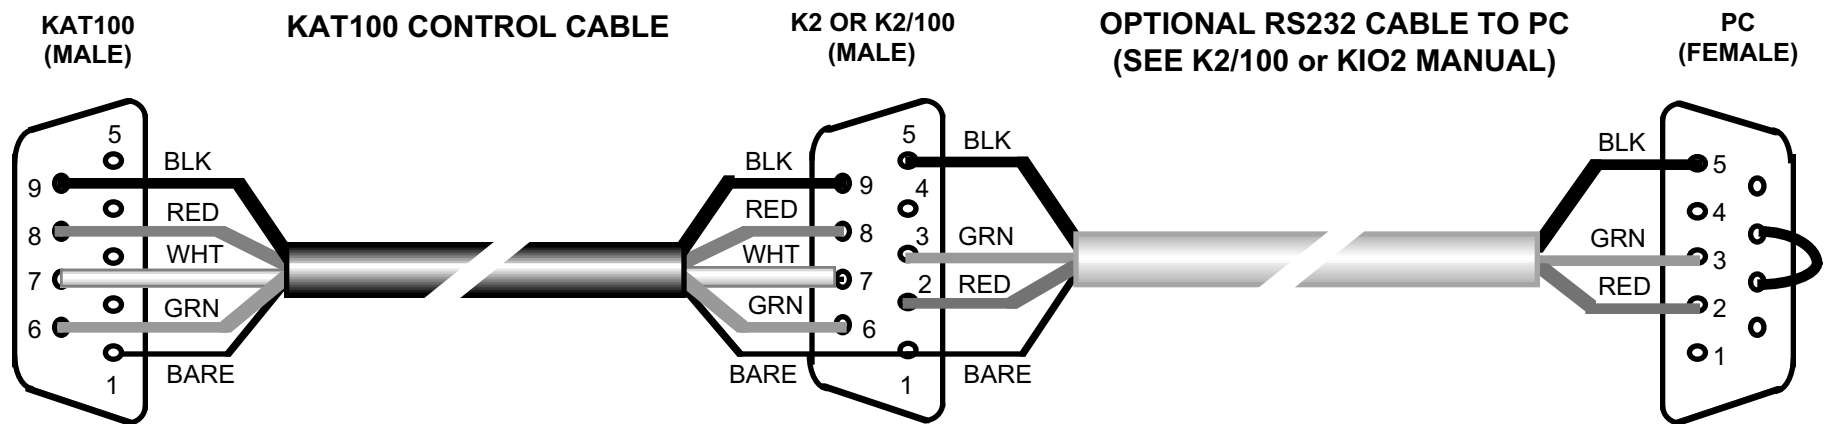

Figure 17
- If you previously built an RS232 control cable for use with the KPA100 or KIO2, remove the backshell from the K2 end. Orient the cable as in Figure 17, with the PC end (female) to the right.
- You should now have two DB9M (male) connectors: one that was supplied with the KAT100, and one from the KIO2 or KPA100. (The latter may already be part of an RS232 cable.) Orient the two male connectors as shown in the left side of Figure 17. The solder cups should be facing up, and the 4-pin rows should be to the left.